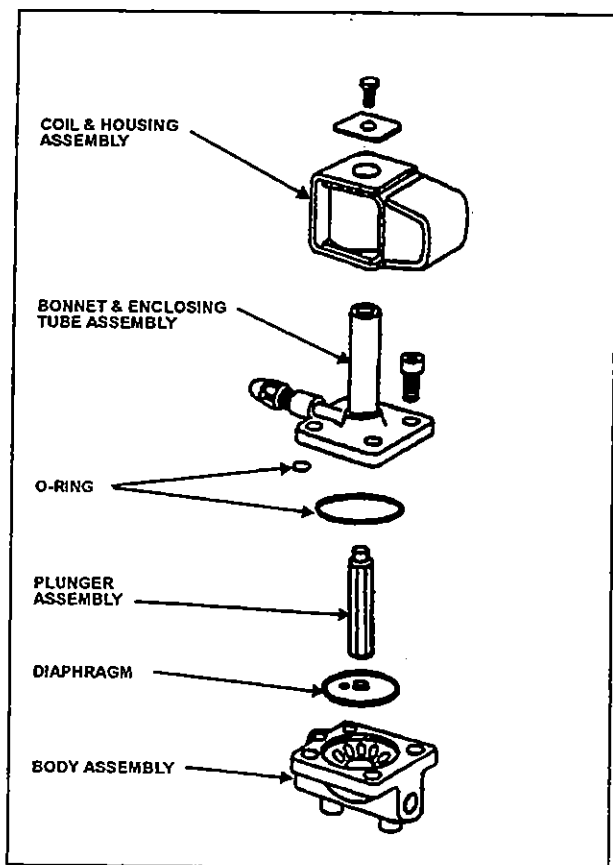

Figure 25: Refrigerant Solenoid Valve
3. Remove the four socket head screws which hold the body and bonnet together (Fig. 25).